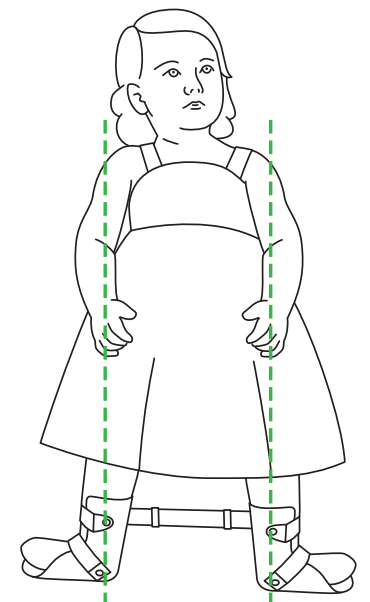

Figure 4: Feet are positioned shoulder width apart
5. Don the AFO sections to the patient. Loosen the black clamp set screws, then slide the green spreader bars over one another at a distance shoulder width apart. Use Thread Loc to prevent the screws from loosening. Attach the EZ-Crawl Bar to the AFOs and ensure the locking devices are properly engaged (see fig. 4).